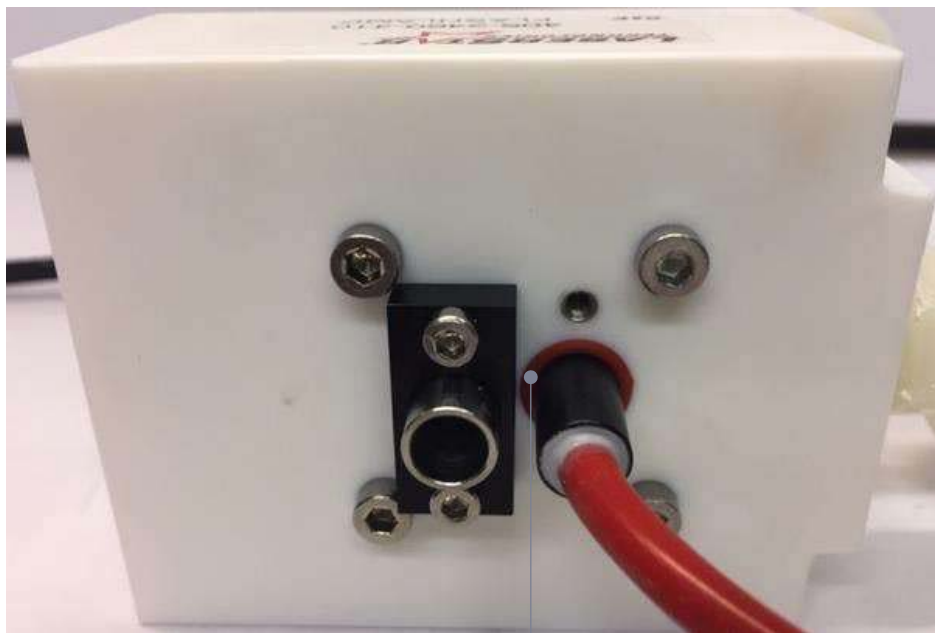

Figure 11
15. Install a new o-ring on both ends of the flashlamp assembly **(figure 11)**.